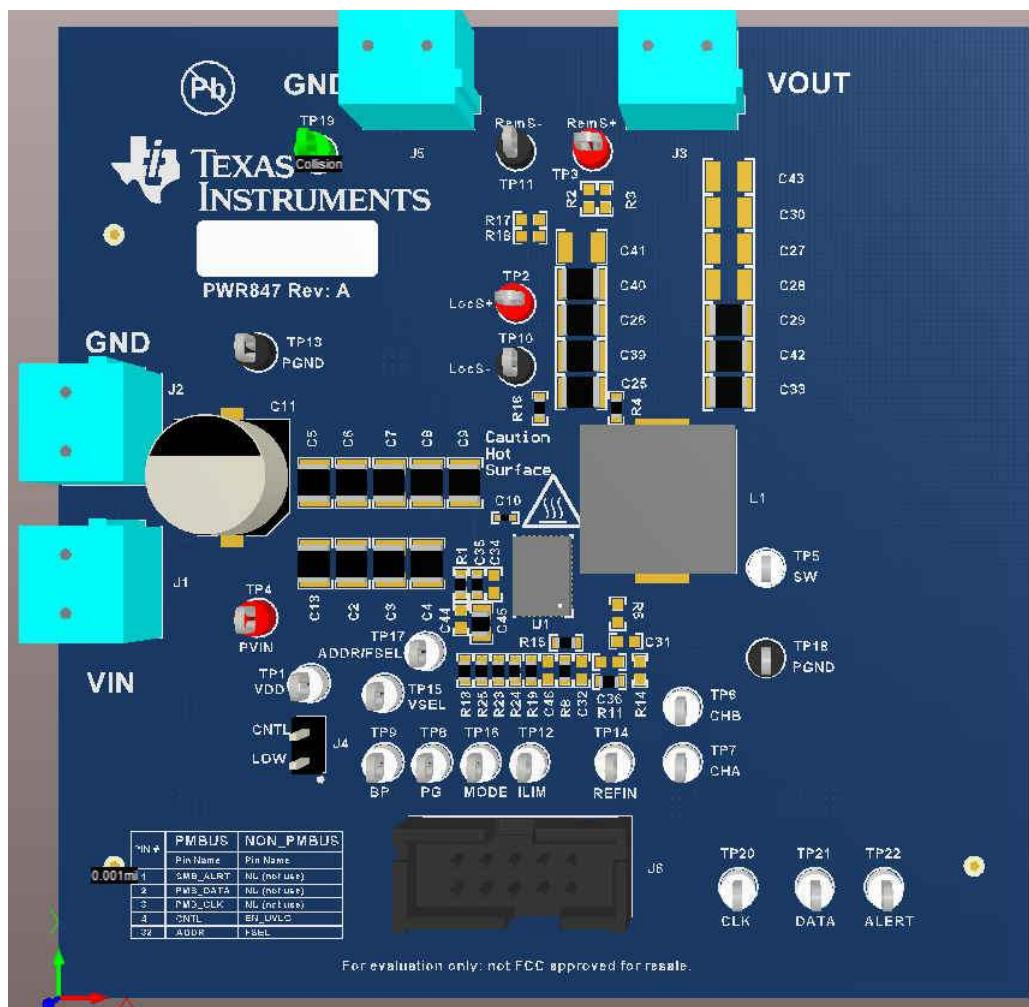
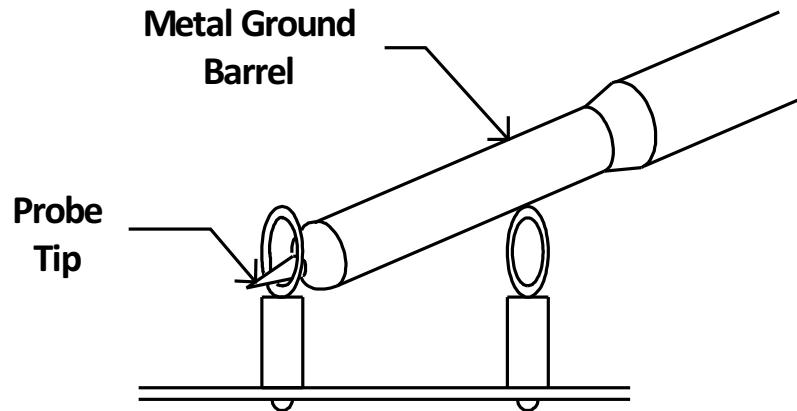

Figure 7-1. PWR-847EVM Overview
Figure 7-2. Tip and Barrel Measurement
**Multimeters:** It is recommended to use two separate multimeters Figure 7-1. One meter is used to measure  $V_{IN}$  and one to measure  $V_{OUT}$ .
**Output Load:** A variable electronic load is recommended for testing Figure 7-1. It must be capable of 25 A at voltages as low as 0.6 V.
**Oscilloscope:** An oscilloscope is recommended for measuring output noise and ripple. Output ripple must be measured using a tip-and-barrel method or better as shown in Figure 7-2. The scope must be adjusted to 20-MHz bandwidth, AC coupling at 50 mV/division, and must be set to 1-μs/division.
Figure 7-1 and Figure 7-2 illustrate the PWR-847EVM overview, tip and barrel measurement.
1. Connect VOUT to J3 and VOUT\_GND to J5 Figure 7-1.
3. Connect VIN to J1 and VIN\_GND to J2 Figure 7-1.